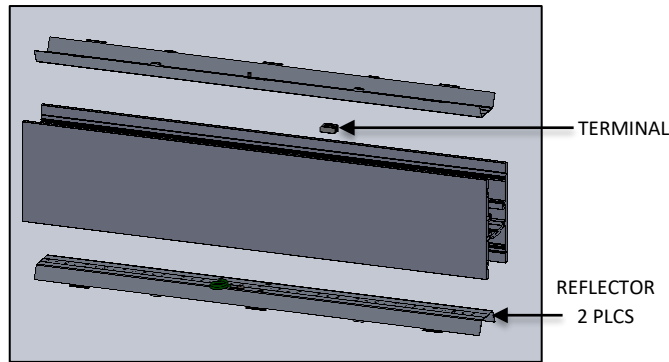

FIG. 13 – REFLECTOR INSTALLATION
9. Reattach REFLECTORS with the aid of a FLAT SCREWDRIVER to the FIXTURE body as shown in FIG.13.